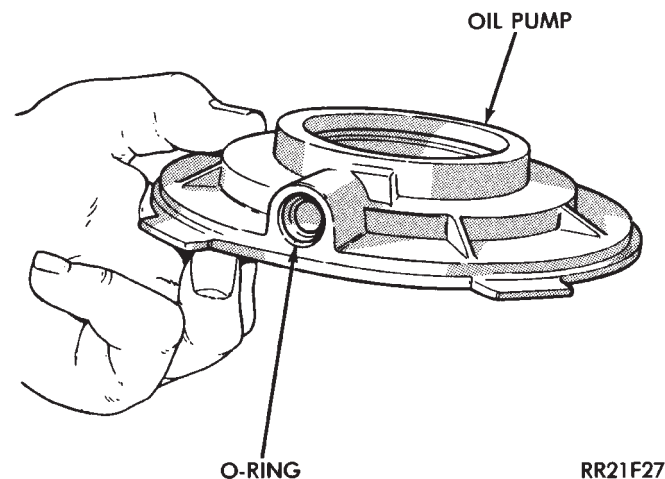

Fig. 65 Pickup Tube O-Ring Position
- (1) Assemble oil pickup screen, connecting hose, and tube.
- (2) Install new pickup tube O-ring in oil pump (Fig. 65).